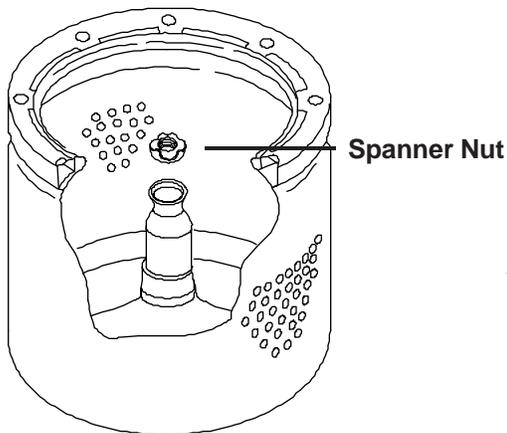

Fig. 3-16
- Complete the removal of the basket by loosening the spanner nut on the spin tube and expand the drive block with a wide bladed screw driver. (Fig. 3-16) The basket can now be lifted straight up and out of the tub.